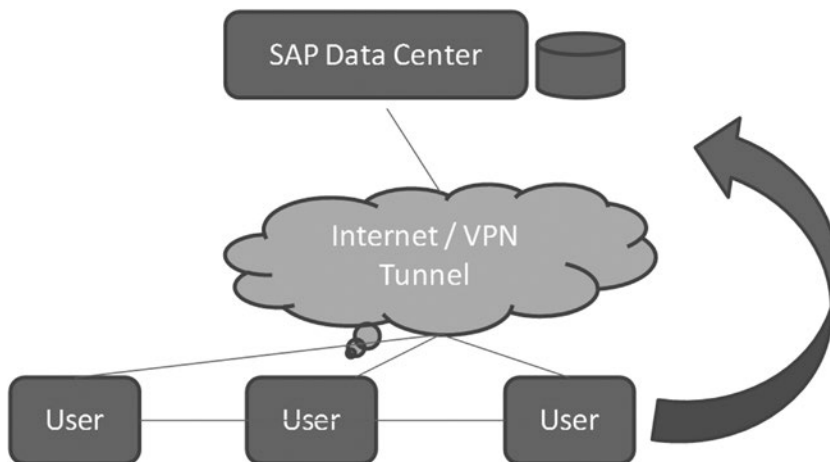

Figure 1-7. *Business By Design—System Infrastructure*
- SAP Business ByDesign—This is an on-demand solution hosted by SAP. Customers can select the functions applicable to them. The applications are managed at SAP's data centers. The user can access the required functions using a browser via VPN connectivity, firewall settings, and so on. Figure 1-7 illustrates this setup.